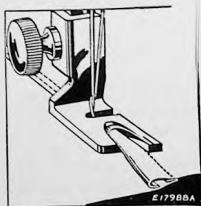

FIG. 40. MAKING A FELLED SEAM
(2) Open the work out flat, wrong side up, and hem the free edge of the seam, stitching it flat to the garment as shown in **Fig. 40**.